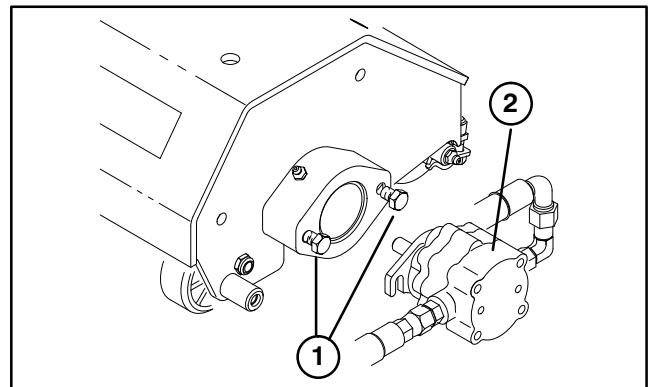

Figure 7
A. Loosen the mounting capscrews for the reel motor to each spiker. Leave approximately 1/2 in. of threads exposed on each mounting capscrew (Fig. 7).